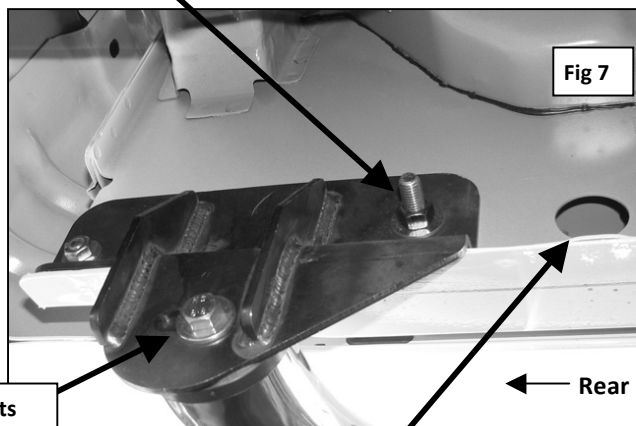

Fig 7
- b. **SUPERCAB:** Select (1) 12mm Bolt Plate and insert it into the larger of the two holes in the body panel and back out the smaller hole. Thread (1) 11mm Plastic Retainer all the way onto it until it is snug against the body, **(Figure 7)**. **IMPORTANT:** The Plastic Retainer is designed to prevent the Bolt Plate from falling into the body cavity and to aid in mounting the Bracket. Once inserted, thread the Plastic Retainer all of the way down to snug up against the body.